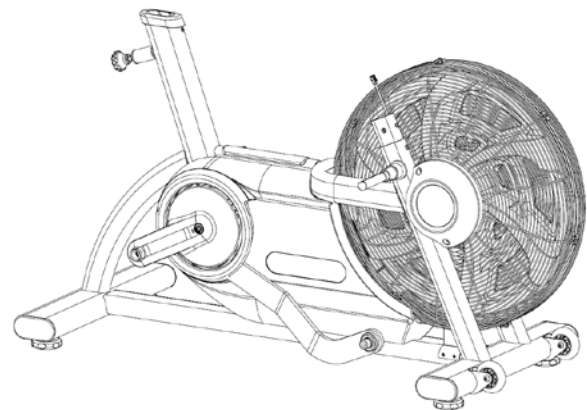

Fig. 3
3. Extract the base (Fig. 3) from the lower box.